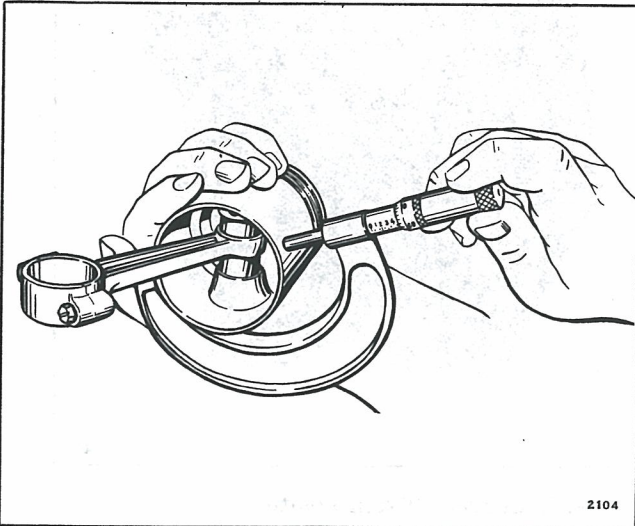

Figure 5-28. Checking Piston with Micrometer
e. Check piston with micrometer to determine whether piston has been distorted during assembly. See Figure 5-28. If slightly out-of-round, tap high side with light mallet (DO NOT use hammer) to restore original roundness. Proceed carefully and caliper frequently until the piston is rounded out.